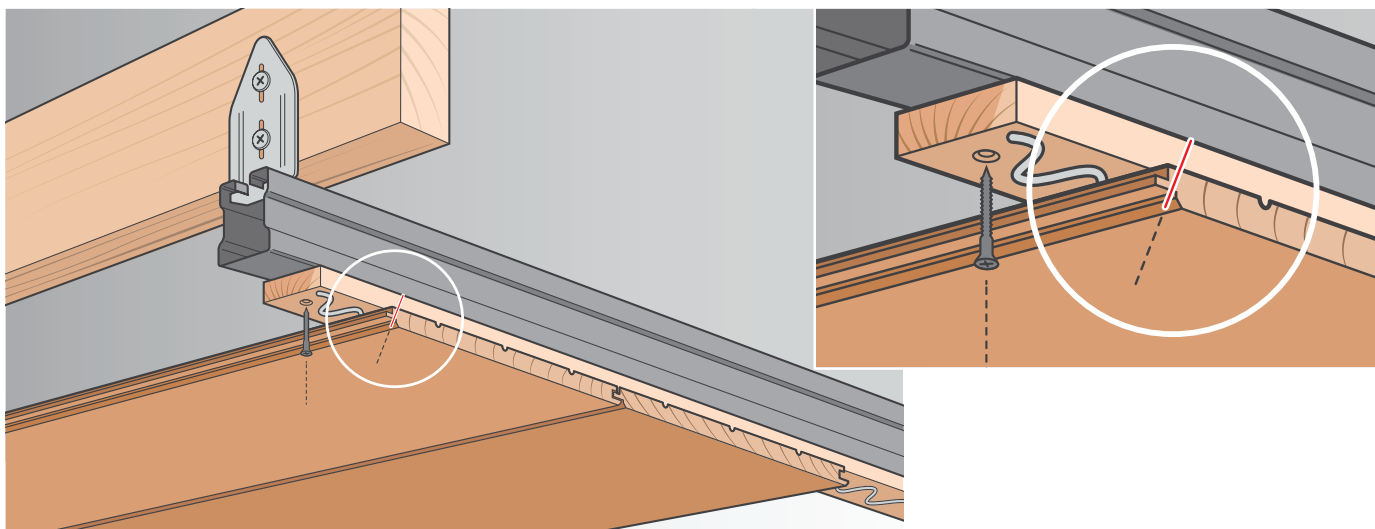

Figure 4: Panelling installation using metal track system / timber batten / secret nail and glue.
- **For panelling that cannot use face fixing screws**, it is necessary to securely screw a timber batten to the bottom of a metal track, then proceed as per timber framing projects (see Figure 4).